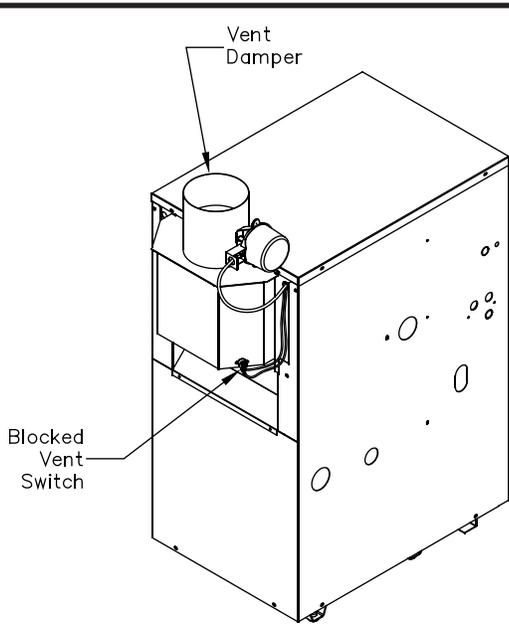

Figure 1: Boilers with Rear Relief Opening
2. All boilers are equipped with a means of preventing the boiler from firing if there is an excessive blockage in the vent system. Boilers designed for chimney venting are equipped with a blocked vent switch located as shown in Figure 1 or 4, depending on the specific boiler design. If this switch opens, the boiler will not fire. Call a qualified installer, service agency or gas supplier to diagnose and the problem and reset this switch if necessary.
- (Chimney vent boilers only) Blocked vent switch not surely attached as shown in Figure 1 or 4, as applicable